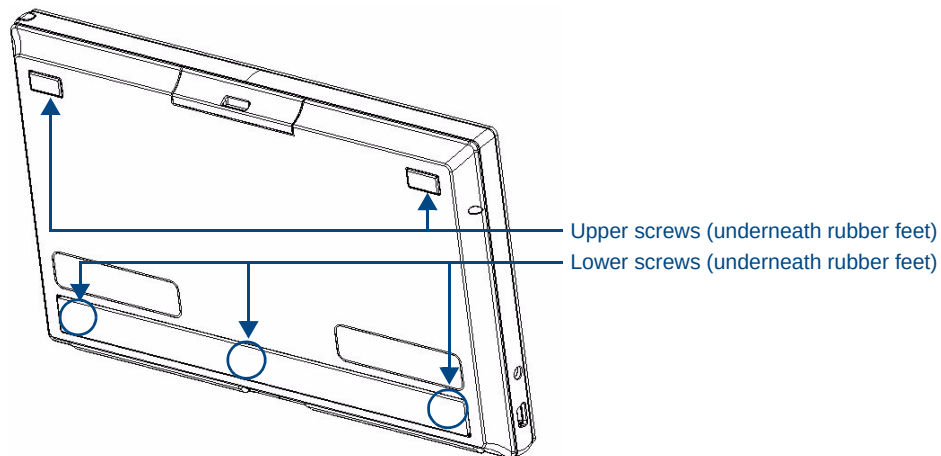

FIG. 84 Screw placement at the back of the MVP-5100
2. Place the device face-down on a surface that will not scratch the unit and remove the five screws from the back of the device (FIG. 84).